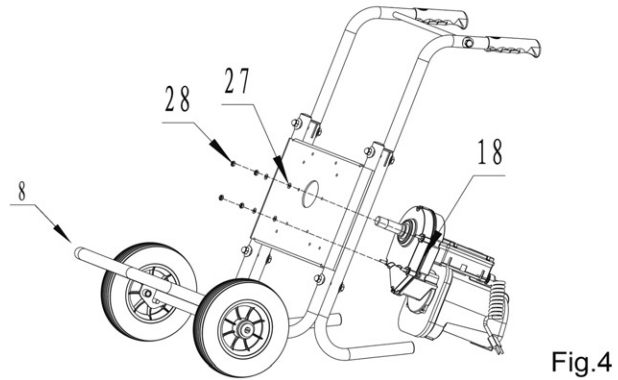

Fig.4
Locate motor and gearbox assembly (18) via the four studs through the chassis (8) using the washer (27) and nuts (28).TIGHTEN ALL FASTENERS.(Fig.4)